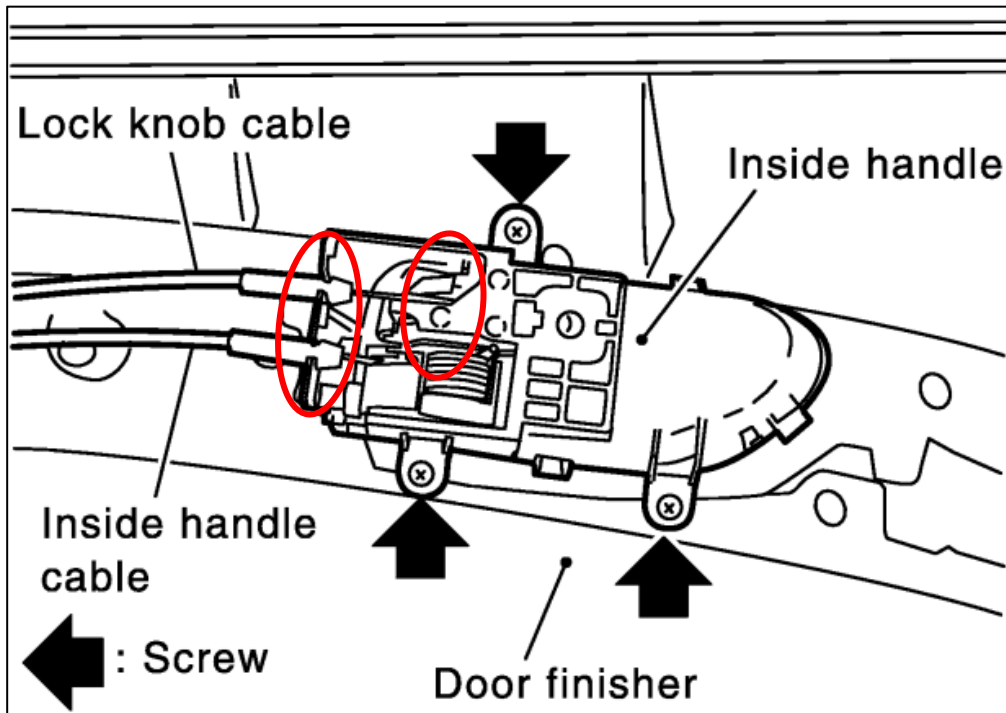

Figure 31
10. Disconnect the Door Latch and Lock cables from the Door Panel. They will easily pop out. *Figure 31.*